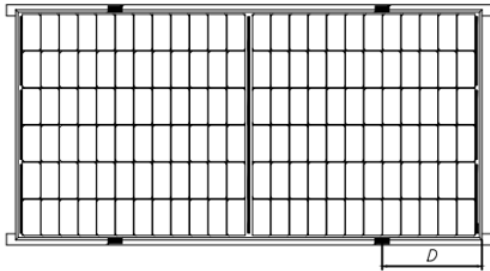

Fig. 3 Rails overlapping the long-side frame
shown in Fig. 3 and 4.
⑦ For the installation method shown in Fig. 3, the module needs to be fixed with professional clamps (as shown in Fig. 7), and the overlap between the C side of the module and the rail should be $\geq 15\text{mm}$. Chint's limited warranty will be void if improper clamps or improper installation is used.